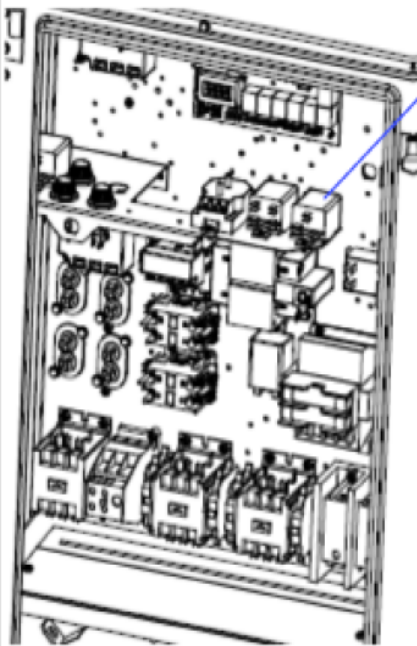
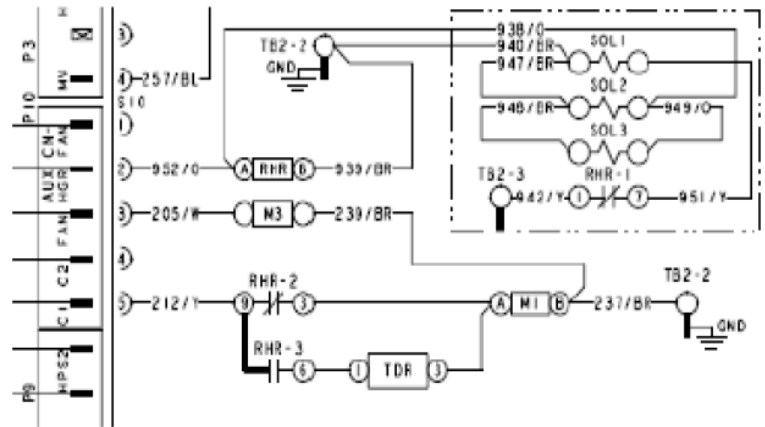

Figure 1.
Figure 2.
1. Open the controls access door and locate the reheat relay, as shown in Figure 1
2. Disconnect all wires from the reheat relay and remove the (2) screws securing the reheat relay. Discard relay
3. Install the new reheat relay DPDT, secure using (2) screws removed from previous step
5. Connect wiring as described in steps 6 thru 13, refer to Figure 2 below as needed